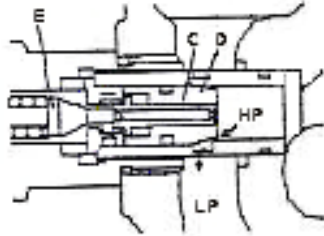

Figure 2-36
(2) Action of safety overflow valve (Figure 2-36)